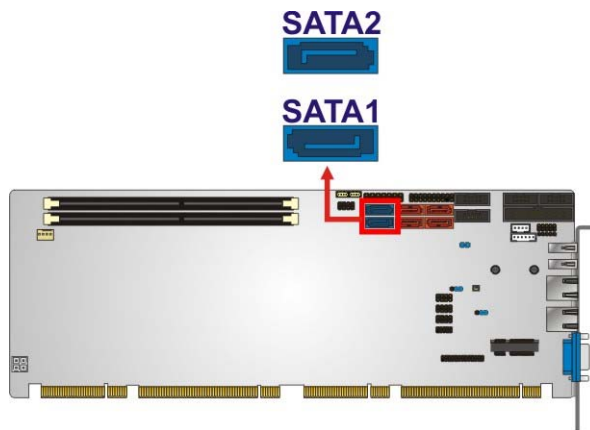

Figure 3-16: SATA 6Gb/s Drive Connector Location
- CN Location:** See **Figure 3-16**